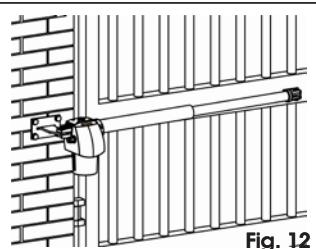

Fig. 12
**⚠** The G-BAT ENV operator is available in both right and left versions. The operator must always be positioned as shown in Fig.12. The right hand operator is the operator which, by looking at the gate from the side where the operator is installed, is located on the right of the leaf (or on the right leaf in the case of 2-motor applications). Consequently, the motor on the left (or on the left leaf) is identified as the left operator.